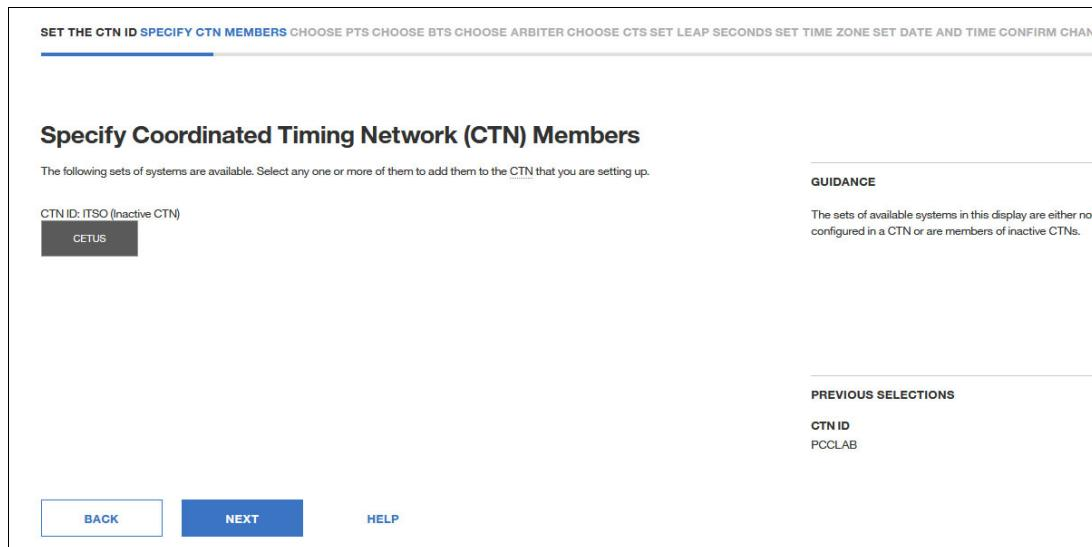

Figure 8-35 Specify Coordinated Timing Network (CTN) members
4. The **Specify Coordinated Timing Network (CTN) members** window opens. Select the CPC name (only CPCs not belonging to a CTN are shown). In this example, only one CPC (CETUS) is displayed. Select the CPC and click **NEXT** to continue (Figure 8-35).